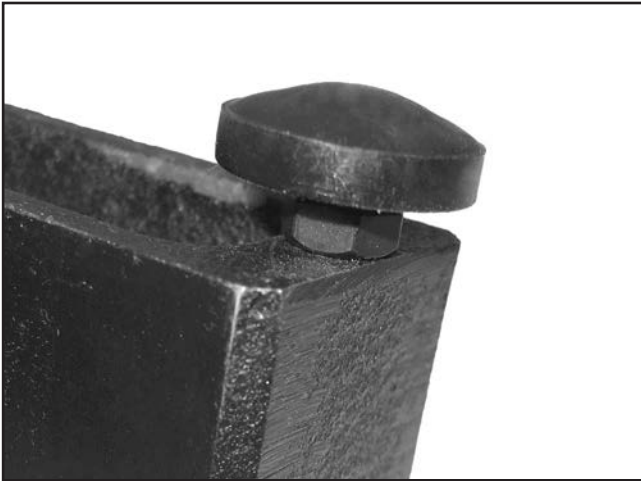

Figure 37. Installed rail pad adjustment screw.
4. Thread the M6-1 hex nut onto the rail pad adjustment screw, then thread the rail pad adjustment screw into the fence (see **Figure 37**).